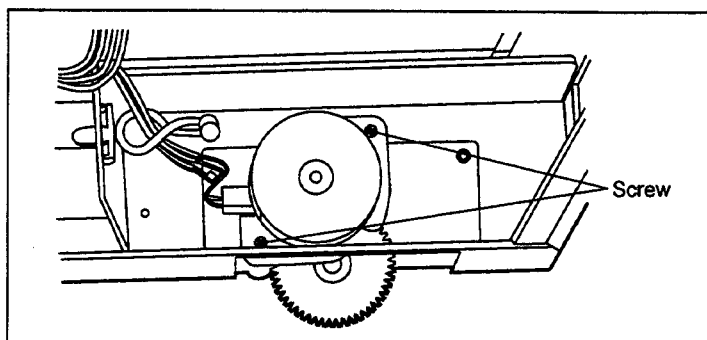

**Fig. 5-19**
- 8) Remove the screen (film) as shown in Fig. 5-19.